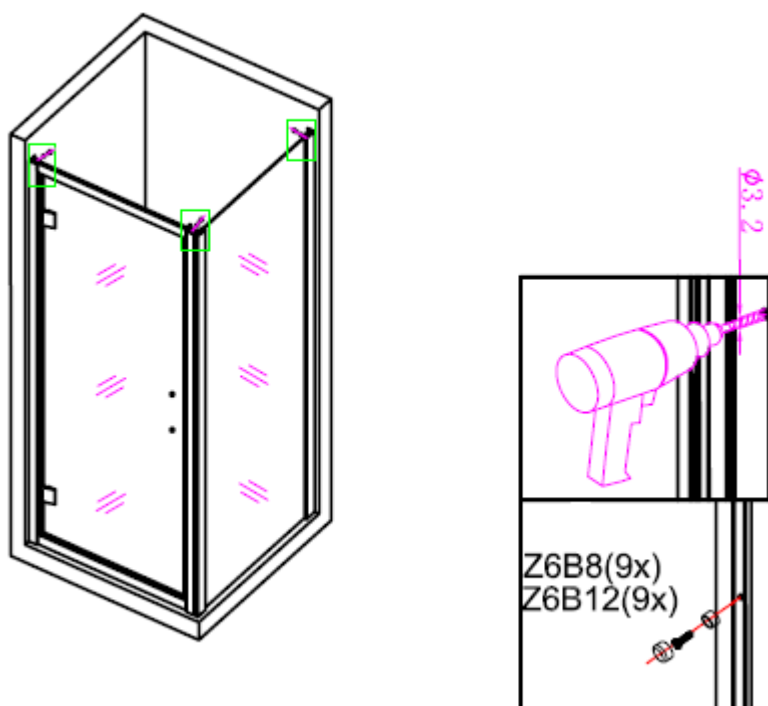

Figure 7
7. Fasten the wall profile and the fixed profile by using screw(Z6B8),as showed in figure 7.